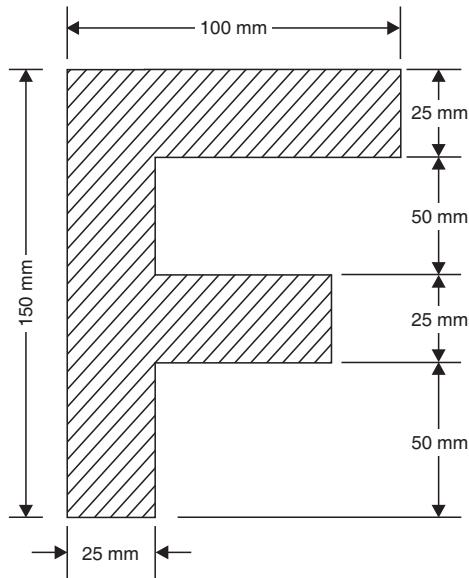

Fig. 7.52
15. Determine by calculation the position of the c.g. of the section shown in Fig. 7.52.